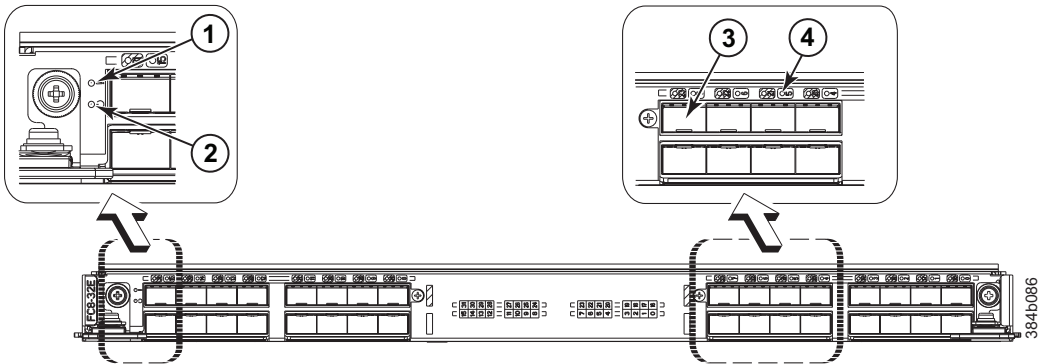

Figure 21. FC8-32E port blade
- Figure 21 on page 56 illustrates the FC8-32E port blade